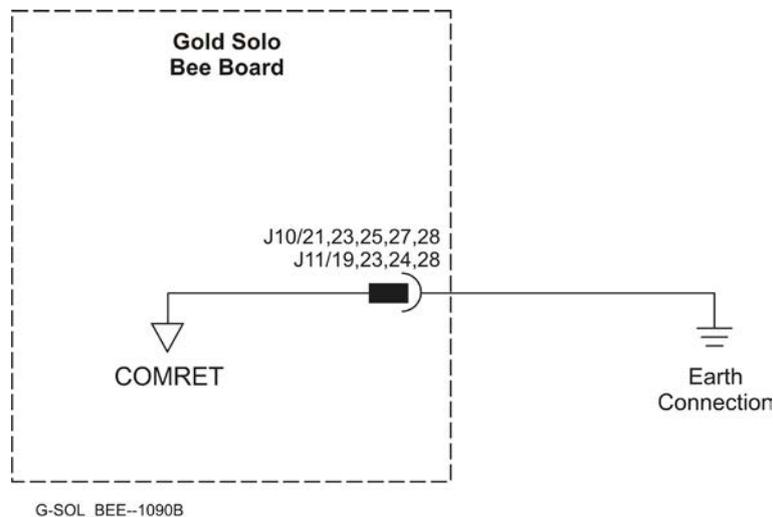

Figure 6: COMRET Connection to the PE
At least one COMRET pin (Figure 6) must be connected to the Protective Earth (PE).